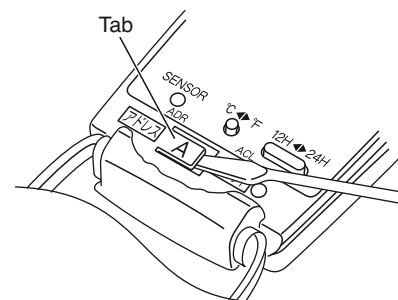
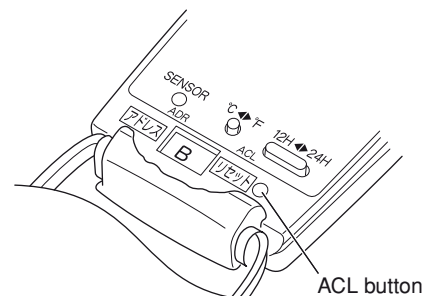

Fig. 62
Fig. 63
- (1) Switch on the power source.
- (2) Break the address-setting tab marked "A" on the second remote controller to change the address (Fig. 62). When the tab is removed, the address is automatically set to B (Fig. 63).
- (3) Press and hold the remote controller QUIET button and 1HR. TIMER button. Then, press and hold the ACL (Reset) button with a pointed object such as the tip of a pen. After 5 seconds, release the ACL button first, then release the QUIET and 1HR. TIMER buttons. "oP-1" (Test Run) appears, blinking in the remote controller clock display area.
- (4) Each time the 1HR. TIMER button is pressed, the display changes as shown below.